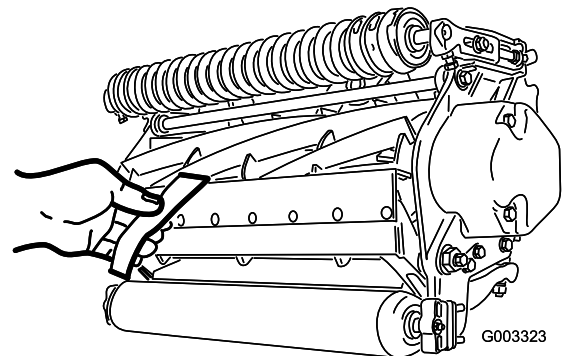

Figure 14
12. Test the cutting performance by inserting a long strip of Toro cutting performance paper between the reel and the bedknife, perpendicular to the bedknife (**Figure 14**).